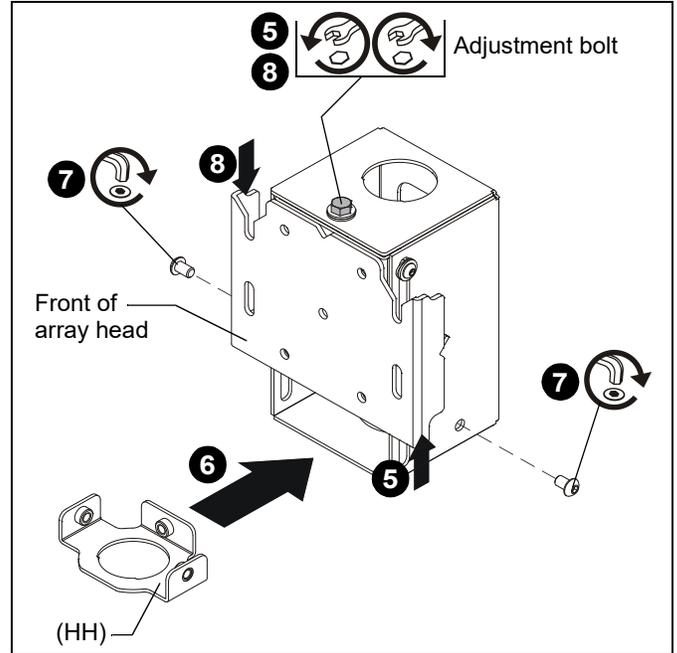

**Figure 1**
1. Turn the array head (FF) upside down. (See Figure 1)
2. Remove **AND SAVE** two button head screws from array head. (See Figure 1)
3. Remove and discard inner bracket from array head. (See Figure 1)